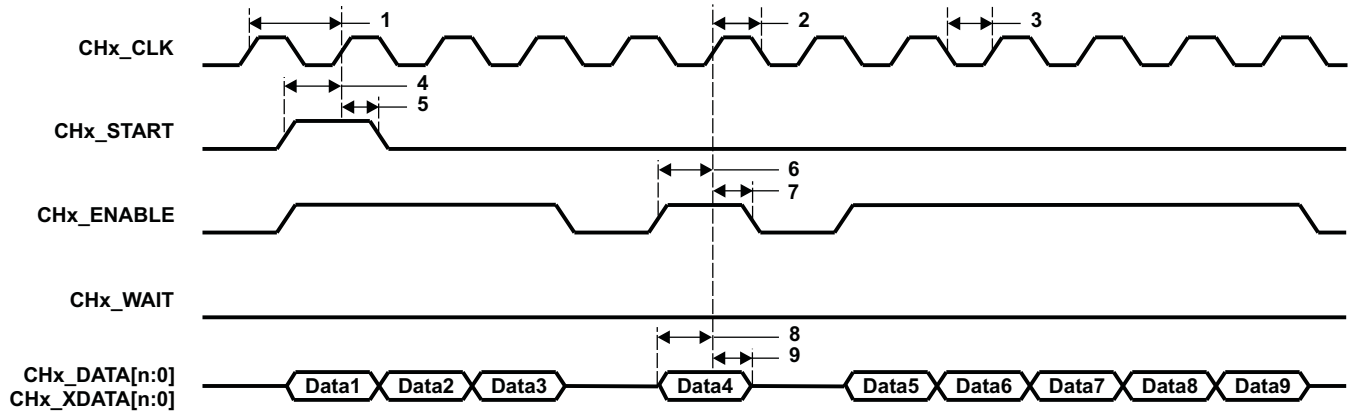
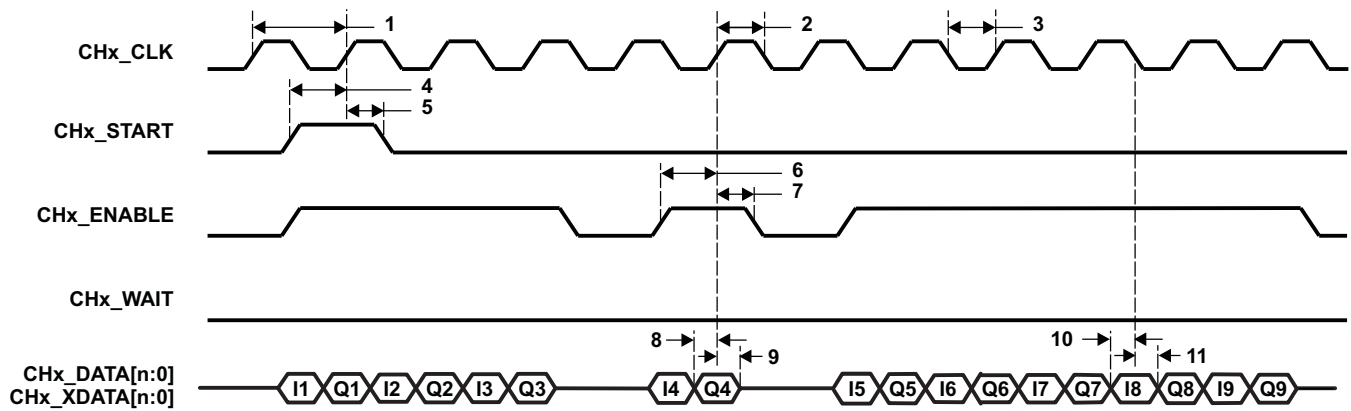
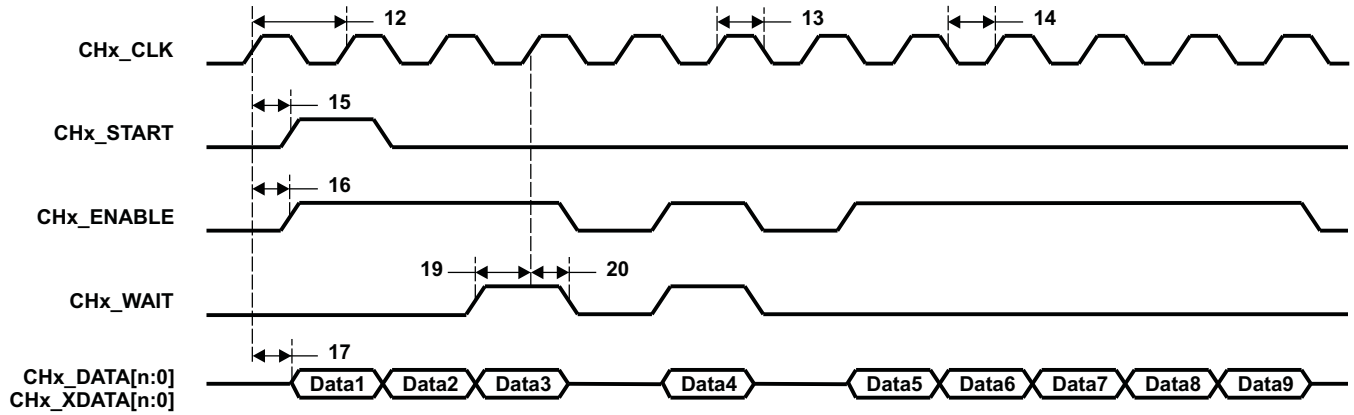
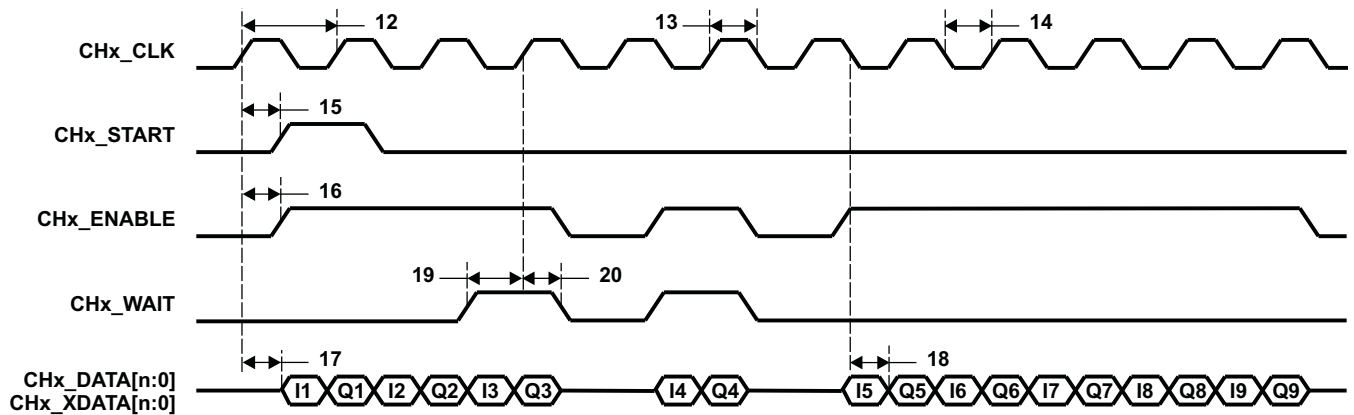

Figure 6-69. uPP Single Data Rate (SDR) Receive Timing
Figure 6-70. uPP Double Data Rate (DDR) Receive Timing
Figure 6-71. uPP Single Data Rate (SDR) Transmit Timing
Figure 6-72. uPP Double Data Rate (DDR) Transmit Timing
**Table 6-116. Timing Requirements for uPP (see Figure 6-69, Figure 6-70, Figure 6-71, Figure 6-72)**